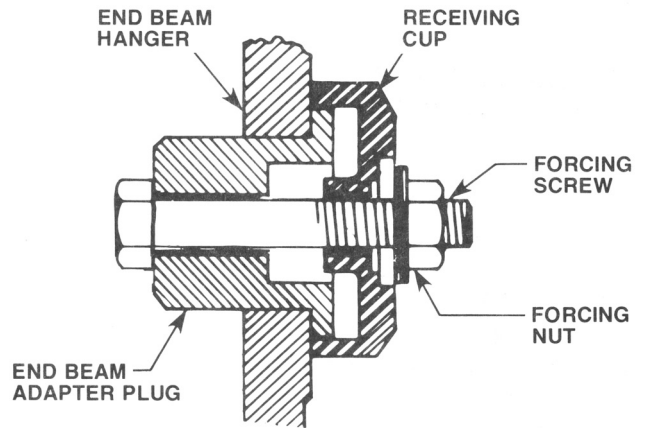

Figure 5
2. Insert the screw (#6) from the differential side through the receiving cup, and secure the nut assembly. See Figure 5.